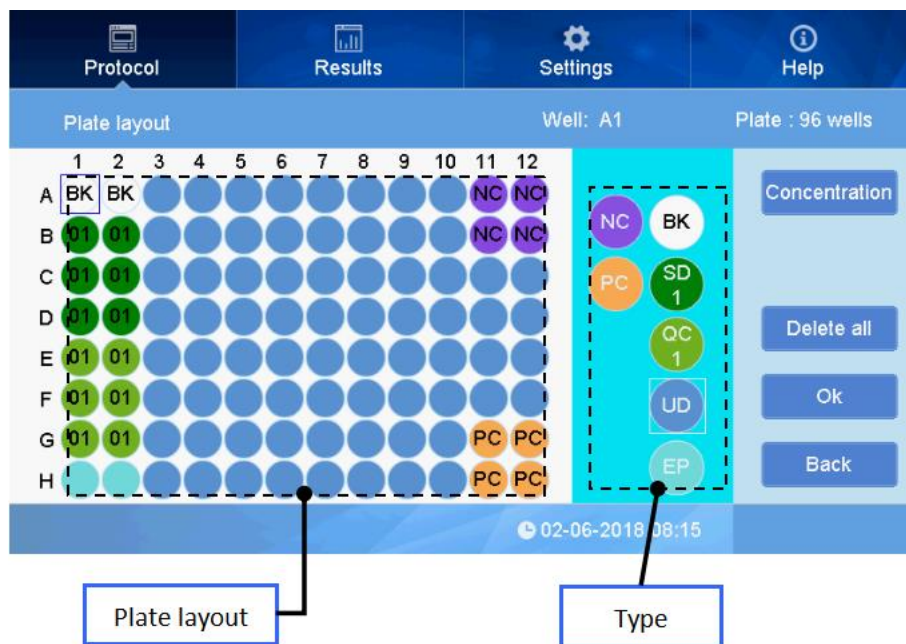

Fig 16
① In the “Plate layout” interface, press “Layout” to set up the layout of the sample plate. On the right side there are some buttons “Concentration”, “Delete all”, “OK”, “Back”, see Fig 16
② Setting the Layout: First choose the type for setting specific wells (the type selected will have a white frame), see UD (unknown sample) in Fig 16, then select well positions on plate layout.